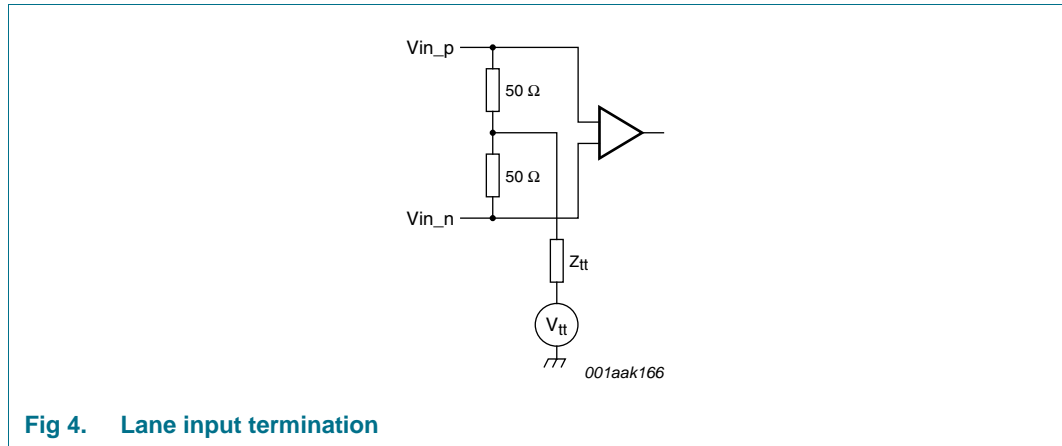

Fig 4. Lane input termination
- [5] Vin\_p and Vin\_n inputs are differential CML inputs. They are terminated internally to  $V_{tt}$  via 50 Ω (see Figure 4).